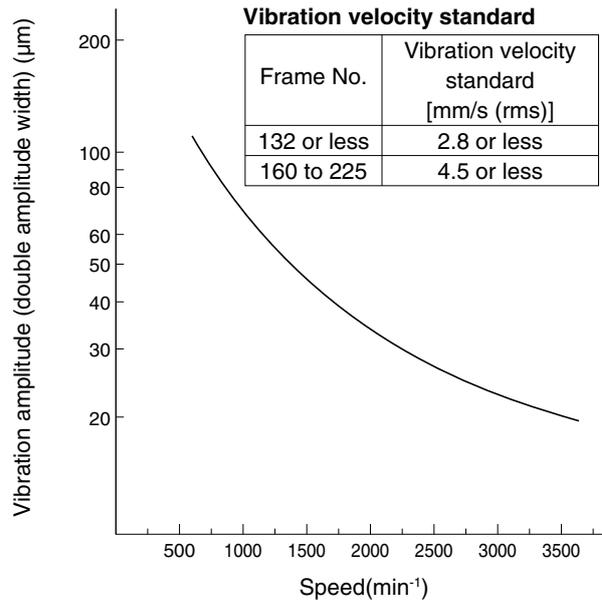

Fig. 5 Tolerable motor vibration value (Max. value on frame)
(1) Tolerable vibration during operation
- When running a loaded machine with the motor, the motor may also vibrate due to the coupling precision with the loaded machine or the effects of the vibration generated from the loaded machine. The degree of vibration will fluctuate according to the state of the foundation and base. Though this vibration should be small regardless to say, its magnitude depends somewhat on such factors as the motor speed and installation conditions. Figure 5 shows the ranges that do not adversely affect the practical operation. If the vibration exceeds this tolerable value, find the cause, and take appropriate measures.